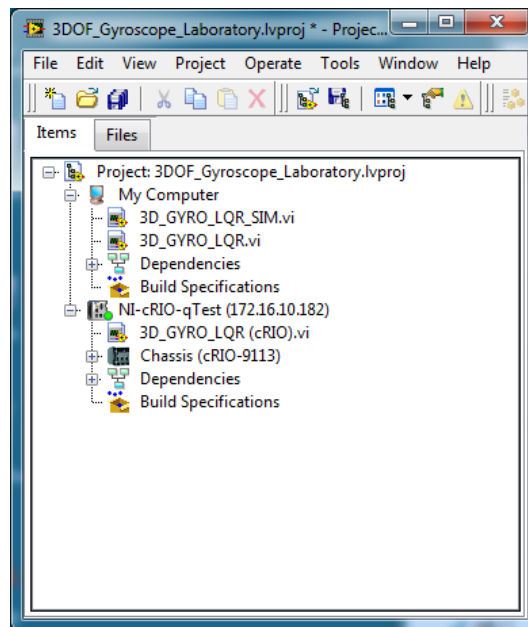

Figure 4.1: 3DOF Gyroscope LabVIEW project
2. Open the *3DOF_Gyroscope.lvproj* LabVIEW project, shown in Figure 4.1.